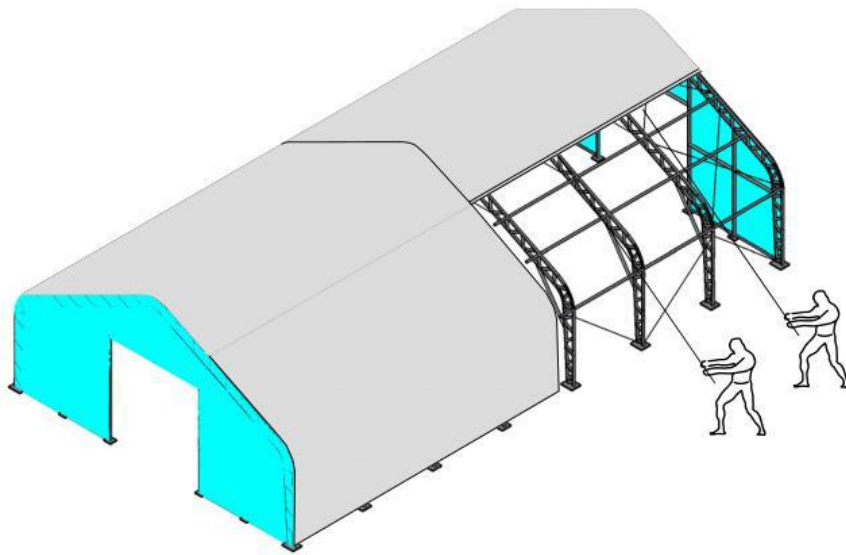

**Figure 14(406021P/407021P/408021P only
2.As Figure 14 and 15 shown, Pull the Roof Cover over the frame **EVENLY, CAREFULLY AND SLOWLY**.